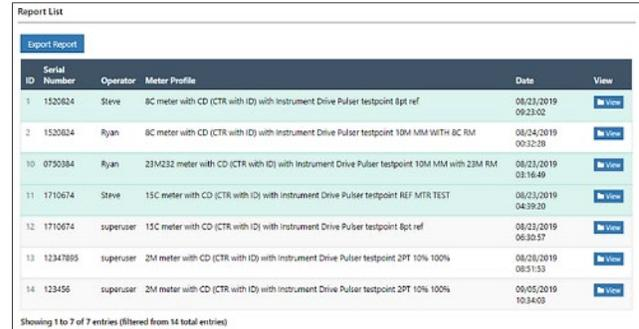

Figure 51: Select report(s) to export
- Click one or more report entries to select the reports to export (Figure 51).